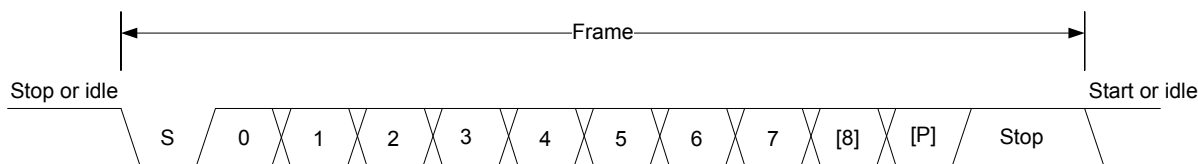

Figure 18.2. LEUART Asynchronous Frame Format
The frame format used by the LEUART consists of a set of data bits in addition to bits for synchronization and optionally a parity bit for error checking. A frame starts with one start-bit (S), where the line is driven low for one bit-period. This signals the start of a frame, and is used for synchronization. Following the start bit are 8 or 9 data bits and an optional parity bit. The data is transmitted with the least significant bit first. Finally, a number of stop-bits, where the line is driven high, end the frame. The frame format is shown in Figure 18.2 LEUART Asynchronous Frame Format on page 607.